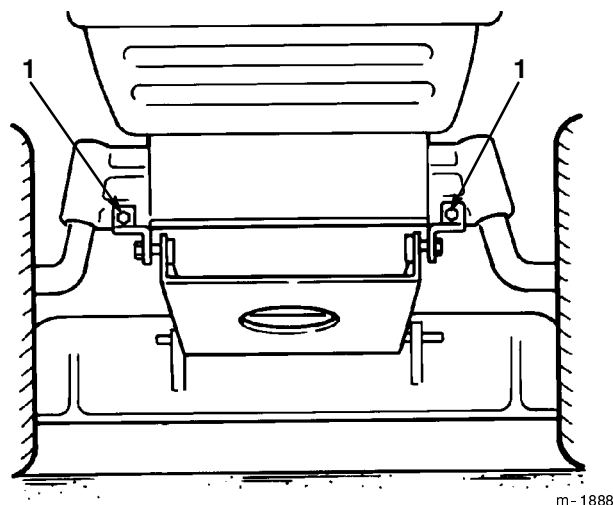

Figure 36
7. Remove the bolts and lock nuts and pull the two mower pivot mount brackets down from the front axle (Fig. 36).